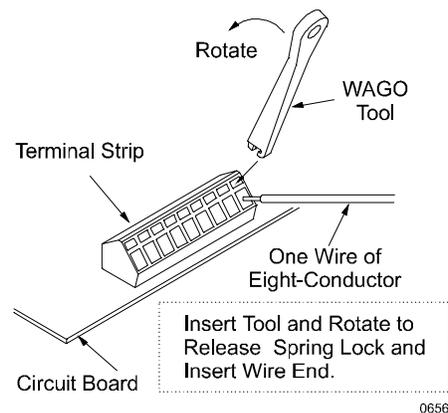

Figure 9: Terminal Connection
- F) Use the WAGO Tool to depress the spring lock for the individual wire connections to the terminal strip. (See Figure 9:)